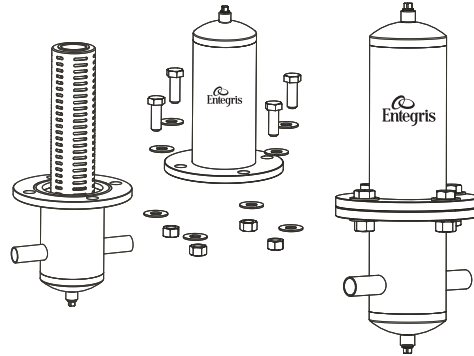

Figure 9.
1. Close the housing top, tighten the flange bolts, nuts, and washers with appropriately sized wrench and recommended torque (refer to Table 1), Figure 9.